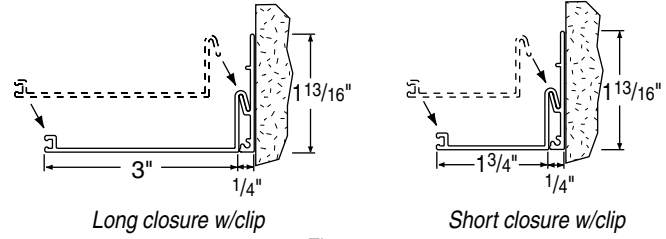

Figure 6
- ① Install roller assembly mounting brackets or endcaps (see steps under "Mounting Brackets or Endcaps").
- ② Drill holes and attach clips for removable closure panel.
- ③ Install roller assembly.
- ④ Place removable ceiling closure in groove (see Fig. 6).